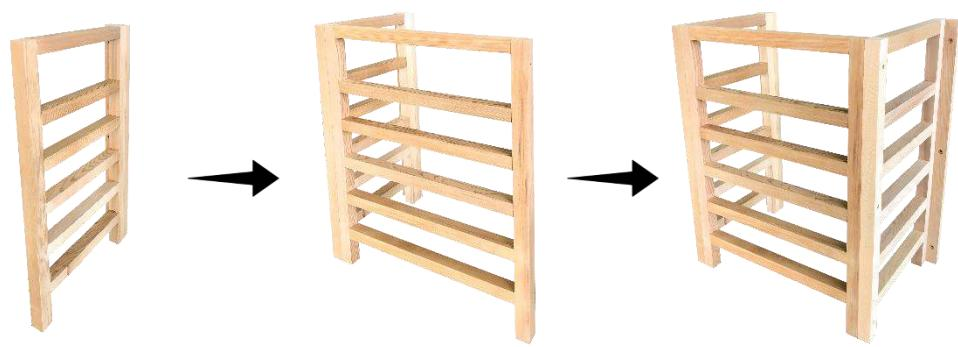

Figure 12
1. You will need to locate the wood housing for the stove and assemble it using the provided screws. The stove wood guard will need to be installed around the stove heater. It will need to be screwed to the side wall panel. (see Figure 12)